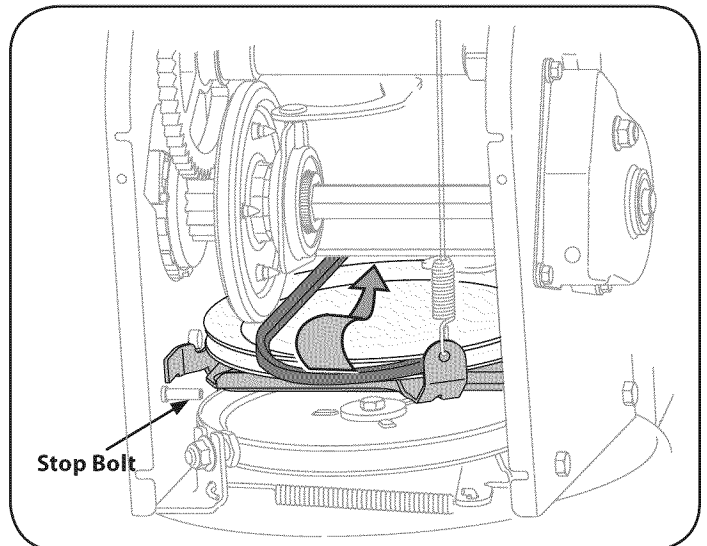

Figure 33
6. Back out the stop bolt to increase the clearance between the friction wheel disc and friction wheel. See Figure 33.
7. Slip the drive belt off the friction wheel disc and between friction wheel and friction wheel disc. See Figure 33.